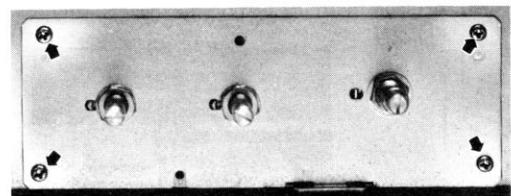

Fig. 23
- 1) Remove 4 screws and pull the circuit board toward you to remove. (Refer to Fig. 23)